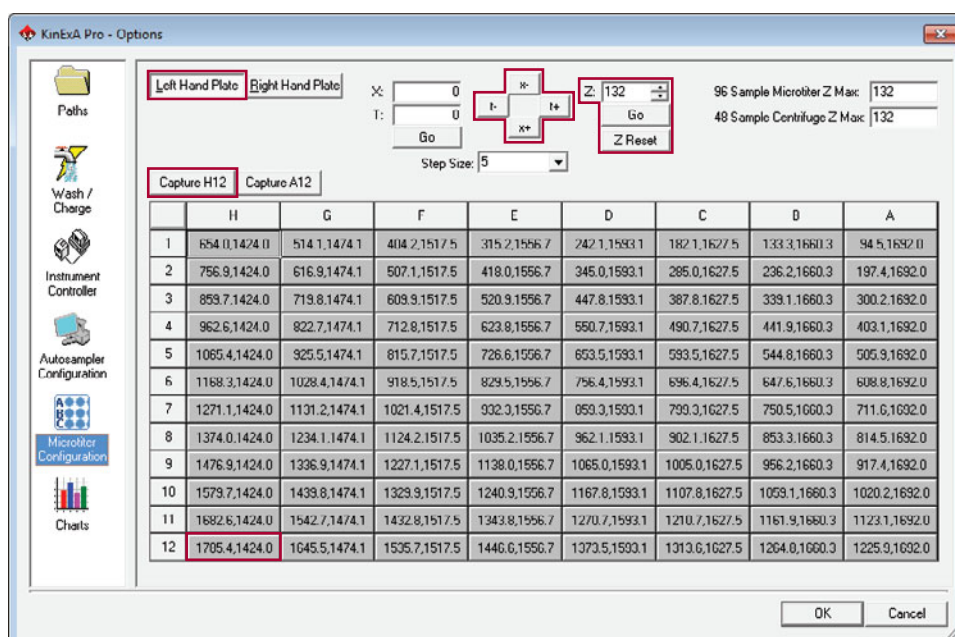

Figure 4. Microtiter configuration screen.
- Select **Microtiter Configuration** below the Autosampler configuration option. Once microtiter configuration is selected, the left hand plate calibration screen will appear (**Figure 4**).
- Drive the sipper tube to position H12 by selecting the gray button in column H, row 12. (**Figure 4**) Drive the sipper tube down by entering **132** in the **Z parameter** and select **Go**.
- 1) Adjust the right arc or left arc by selecting the **t-** button or **t+** button (**Figure 4**).
- 2) Adjust the forward or backward movement of the sipper tube by selecting the **x+** button or **x-** button (**Figure 4**).
- Once the sipper tube is aligned in the H12 position, select **Capture H12** (**Figure 4**).
Note: If the Z parameter is not cleared, the sipper tube will drop to this setting every time a new position is selected. To clear this setting, select the **Z Reset** button (**Figure 4**).
- Next move the sipper tube to the H1 position by selecting the gray button in column H, row 1. Drive the sipper tube down by entering the appropriate **Z parameter** and select **Go** (**Figure 4**).